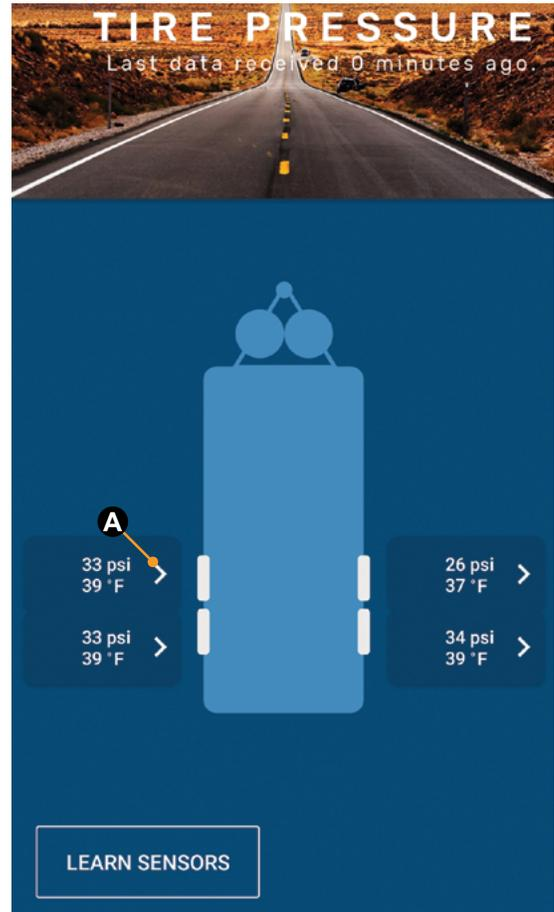
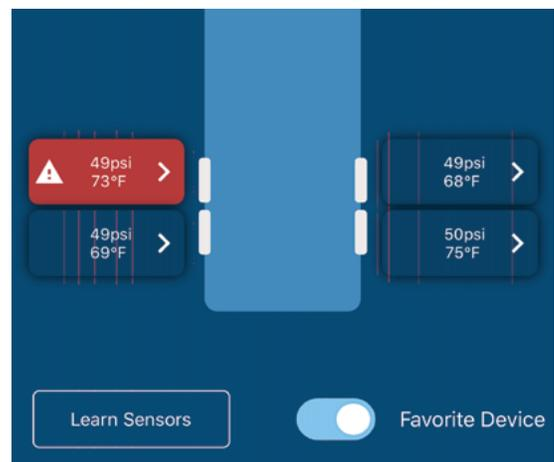

Fig.16
Fig.17
2. The smart phone will connect to the repeater and the app will display a trailer image with tire pressures and temperatures (Fig.16).
NOTE: Figure 16 shows tire pressures and temperatures within the specification ranges for the Left Front tire while figure 17 shows the tire is outside specification ranges.
If a stem sensor becomes loose or is missing from a tire, the readout button (Fig.17) will be grayed out. Tighten the loose sensor or replace with new.